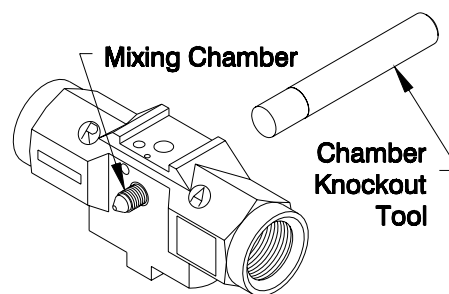

Figure 16. Mixing Chamber Removal
12. REMOVE THE MIXING CHAMBER- Holding the gun block in one hand, insert the mixing chamber knockout tool into the rear of the gun block and tap it with the 4 oz. ballpeen hammer. The chamber will eject into the palm of your hand. Place the chamber into a container of gun cleaner. Flush the entire gun block with gun cleaner (See Figure 16).